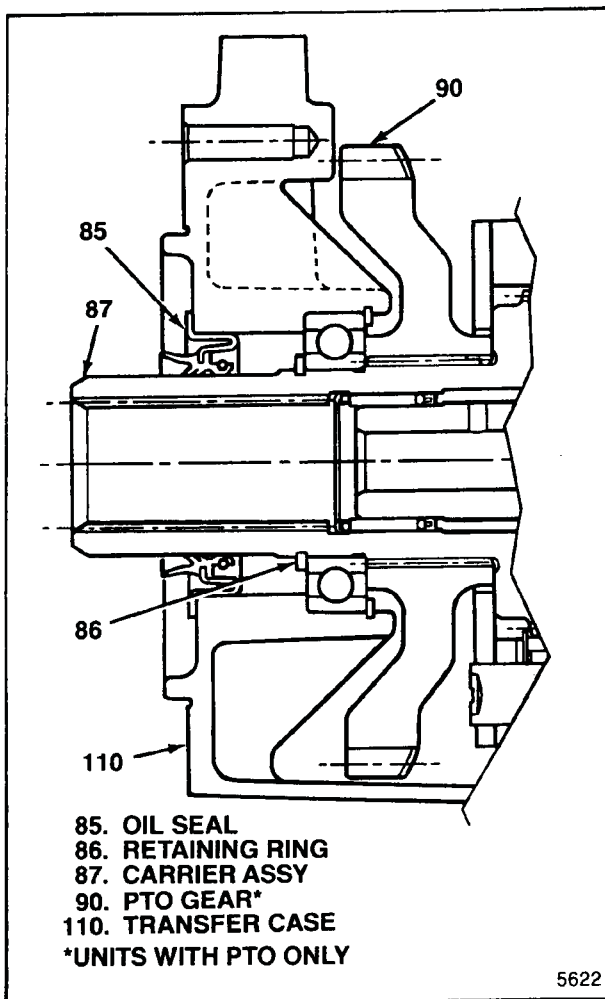

Figure 5-5. Oil Seal and PTO Gear Position
a. Install ring gear (89) in transfer case (110), lug end of gear last. Engage gear lugs with case notches and install retaining ring (88).
b. For units with PTO, align splines and install PTO gear (90) on input shaft of carrier assembly (87). Position gear with respect to carrier assembly as shown in figure 5-5.
c. Position carrier assembly (87), with installed PTO gear (90) if used, in transfer case (110) and install retaining ring (86) in groove in input shaft of carrier assembly.
d. Position oil seal (85) as shown in figure 5-5 and press into transfer case (110) until seal flange seats on case.